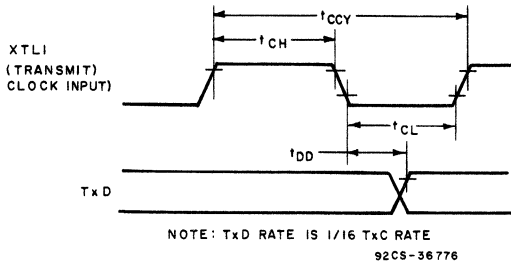

Fig. 26 - Transmit-timing waveforms with external clock.
**DYNAMIC ELECTRICAL CHARACTERISTICS - TRANSMIT/RECEIVE, See Figs. 26, 27 and 28.**